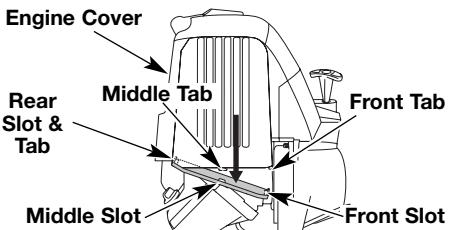

Fig. 32
1. Remove the muffler cover by pressing down on it, separating it from the engine cover. Using a flat blade screwdriver, disengage the middle and front tabs and slots first. The cover will hinge off from the rear tab (Fig. 32).
13. Reinstall the muffler cover. Slip the rear tab on the muffler cover into the engine cover rear slot. Then slide the remaining slots into the tabs until they snap into place (Fig. 32).